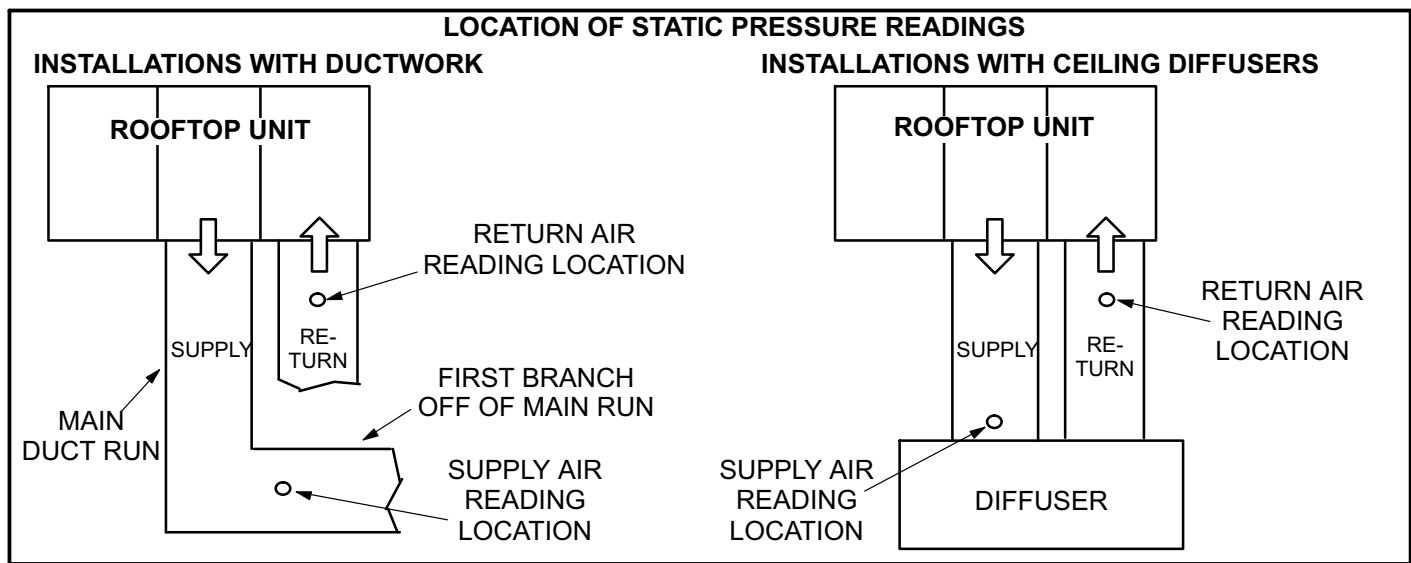

FIGURE 17
- 2 With all access panels in place, measure static pressure external to unit (from supply to return). Blower performance data is based on static pressure readings taken in locations shown in figure 17.